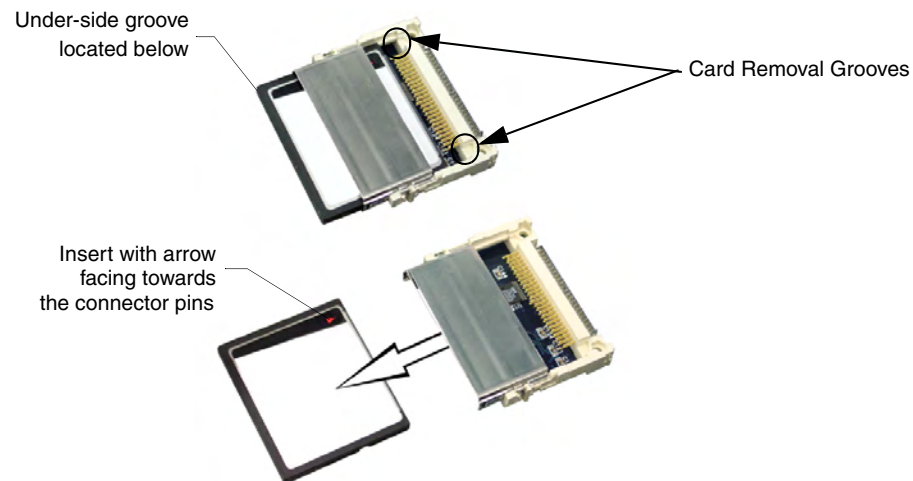

FIG. 21 Removing the Compact Flash card
6. Insert the upgrade card into the connector opening with the arrow facing towards the pins, then push it in firmly until the contact pins are completely inside the flash card and securely attached to the connector (FIG. 21).